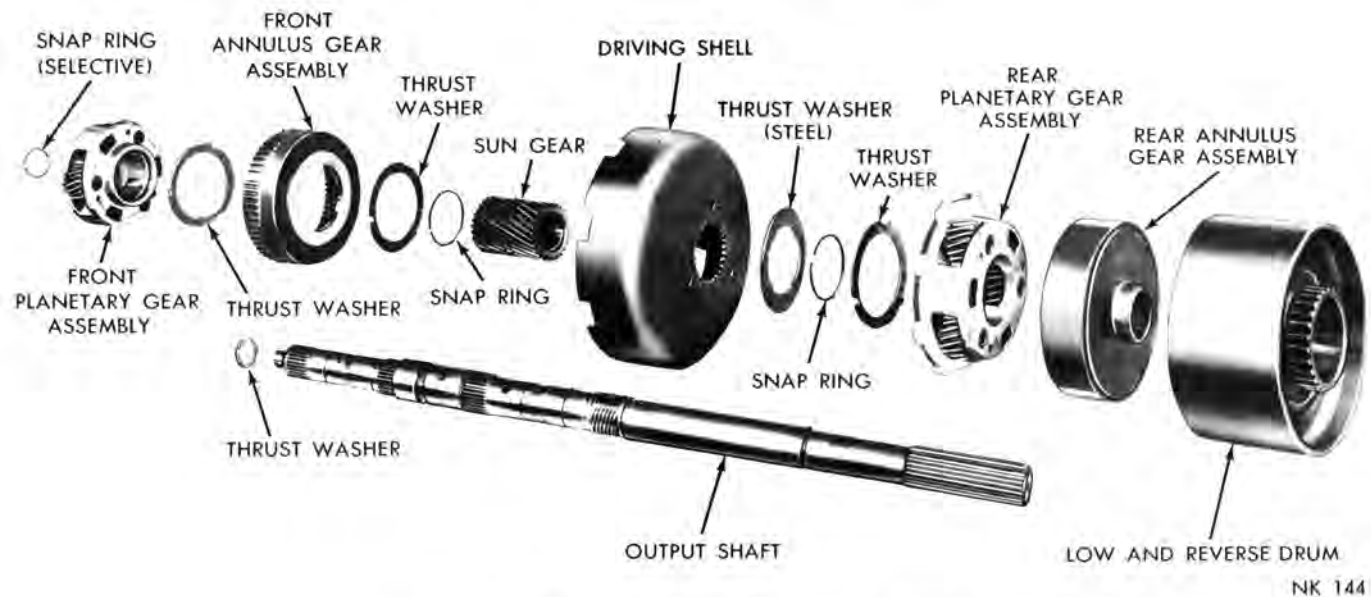

Fig. 104—Planetary Gear Assemblies, Sun Gear, Driving Shell, Low-Reverse Drum and Output Shaft—Disassembled
(1) Remove the thrust washer from the forward end of the output shaft (Fig. 104).
(2) Remove the selective snap ring from the forward end of the output shaft, then slide the front planetary assembly off the shaft.
(3) Slide the front annulus gear off the planetary gear set (Fig. 104). Remove the thrust washer from the rear side of the planetary gear set.
(4) Slide the sun gear, driving shell and the rear planetary assembly off the output shaft.
(5) Lift the sun gear and driving shell off the rear planetary gear assembly. Remove the thrust washer from inside the driving shell. Remove snap ring and steel washer from the sun gear (rear side of driving shell) and slide the sun gear out of the shell. Remove the front snap ring from the sun gear if necessary. Note that the front end of the sun gear is longer than the rear.
(6) Remove the thrust washer from the forward side of the rear planetary gear assembly, remove the planetary gear set from the rear annulus gear.
Refer to Figure 104 for parts reference.